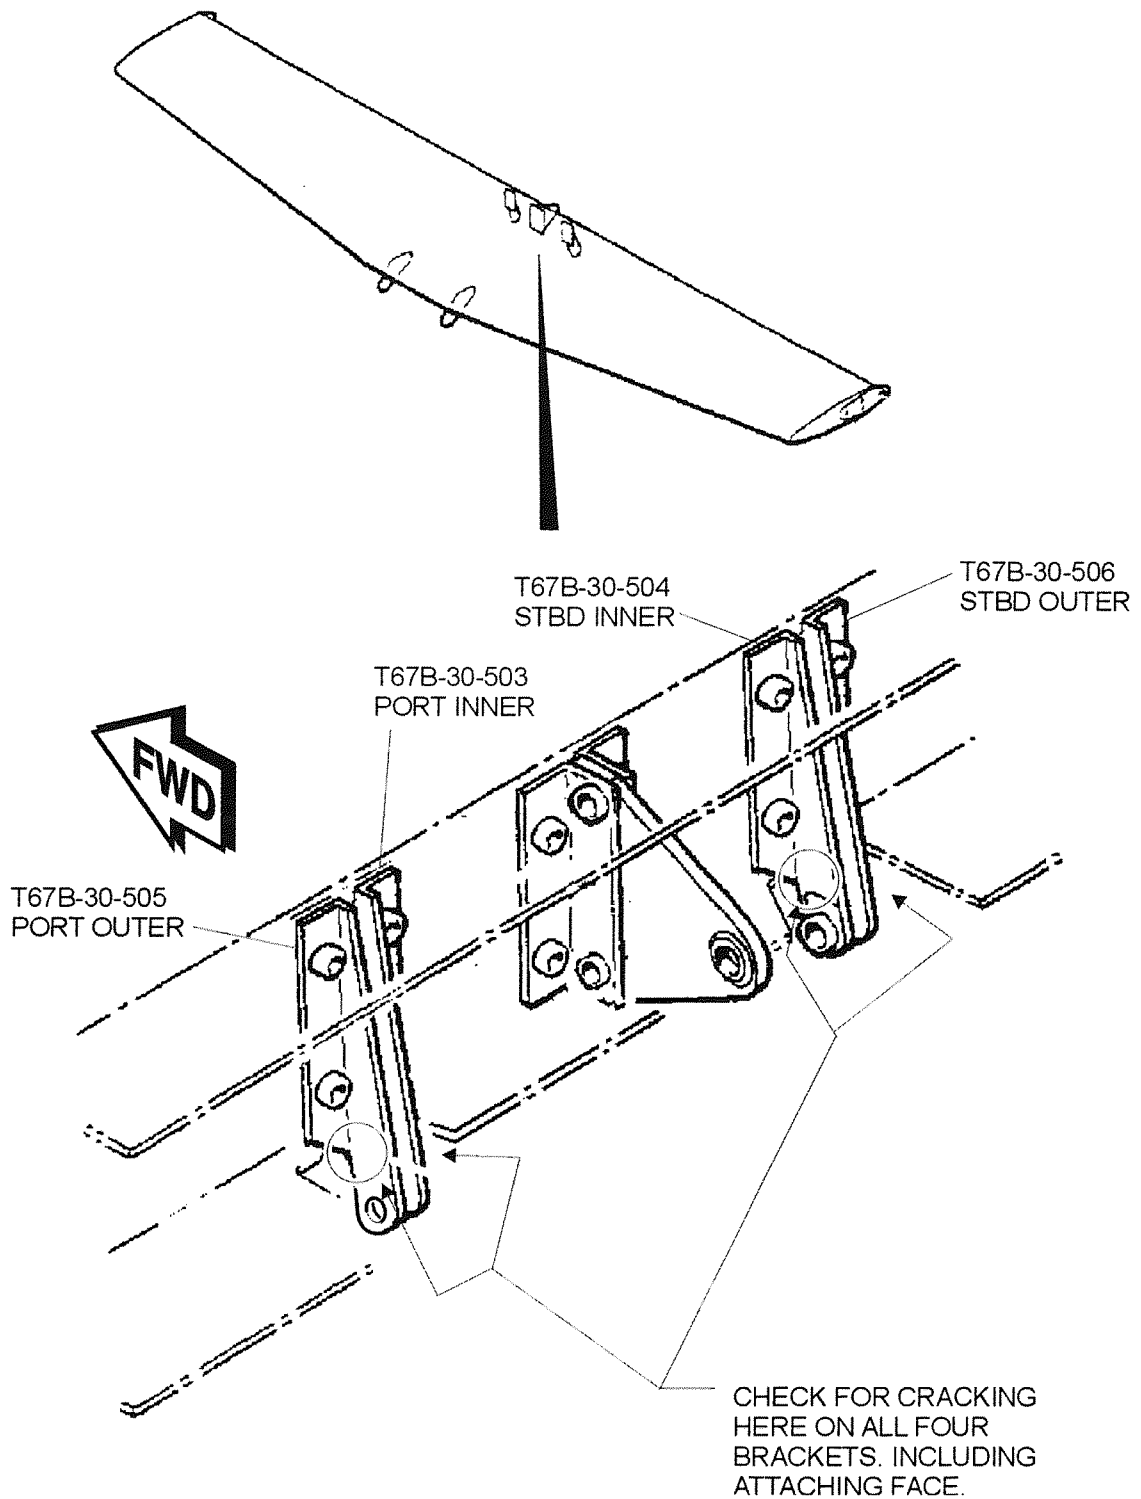

FIGURE 1
2.     Gain access to aft tailplane mounting brackets and remove from tailplane Ref. Figure 1.
4.     Perform dye penetrant NDT crack detection on brackets and examine, paying particular attention to the region illustrated in Figure 1.